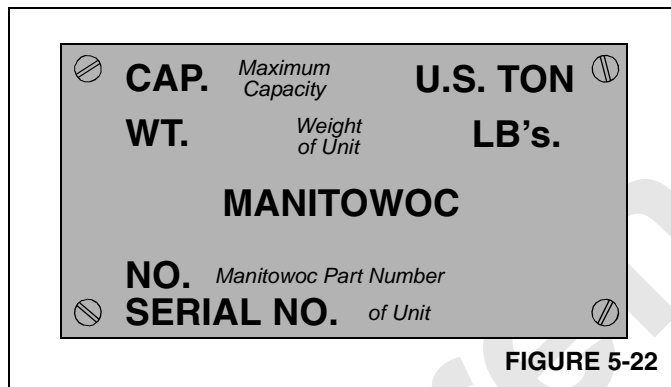

FIGURE 5-22
- Do not remove or deface nameplate (Figure 5-22) attached to load blocks and hook-and-weight balls.